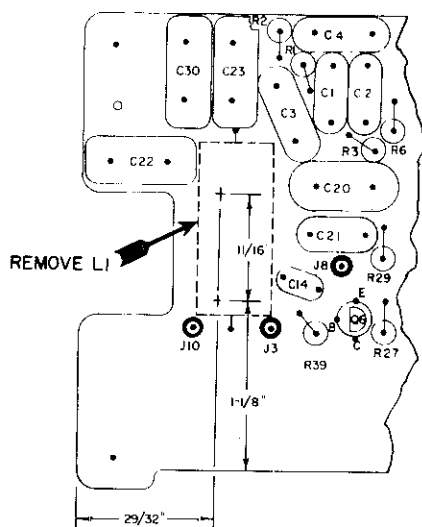

Fig. 1 - Before Modif.
2. Drill two 1/8" holes in the Channel Guard board at the locations shown in Figure 1.